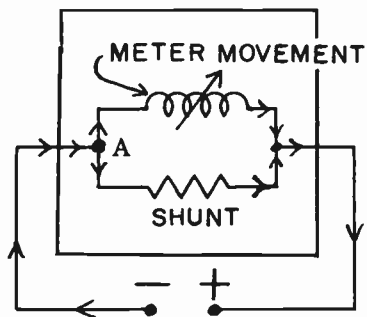

FIG. 3-17A. THE BASIC AMMETER CIRCUIT.
**THE AMMETER.** To convert the D'Arsonval meter movement to an ammeter, we must add a SHUNT to it. A shunt is a very low value resistance that is connected in parallel to the meter movement. See Fig. 3-17A.